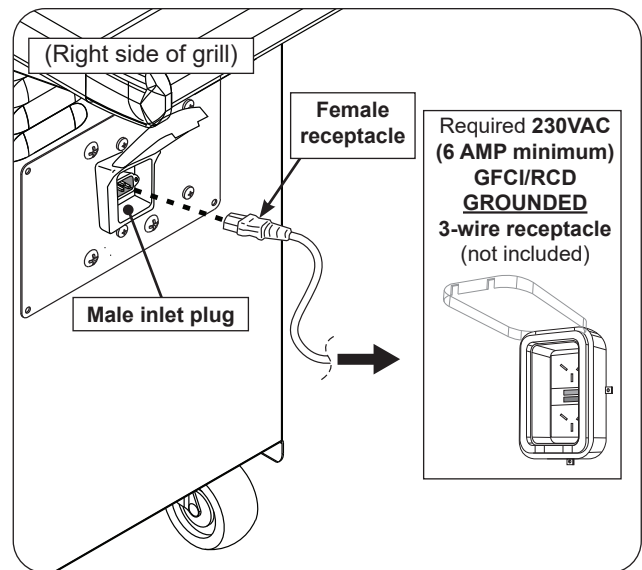

Fig. 24-3 Connect to line power
5. Place the burner cap on top of the burner, as shown in Fig. 24-3.
6. Place the grid so that it rests on the front and back lips of the sideburner opening (Fig. 24-3).